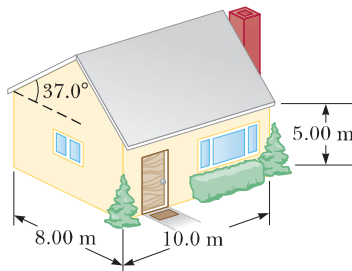

Figure P20.78
**78.** The average thermal conductivity of the walls (including the windows) and roof of the house depicted in Figure P20.78 is 0.480 W/m · °C, and their average thickness is 21.0 cm. The house is kept warm with natural gas having a heat of combustion (that is, the energy provided per cubic meter of gas burned) of 9 300 kcal/m3. How many cubic meters of gas must be burned each day to maintain an inside temperature of 25.0°C if the outside temperature is 0.0°C? Disregard radiation and the energy transferred by heat through the ground.